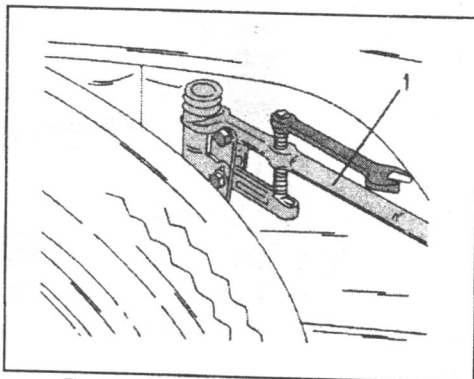

Fig. 6.2. — Removal of a track rod ball joint.
- Turn the steering into full lock to one side and remove the nut securing und track rod ball joint to the steering lever. Use a suitable puller, as shown in Fig. 6.2 and separate the ball joint connection.